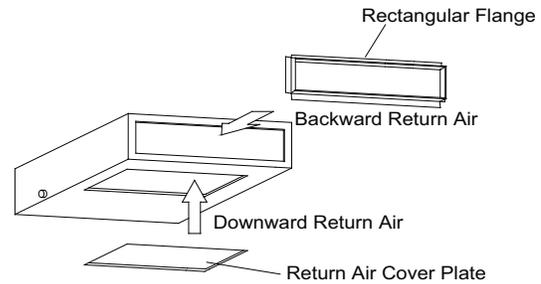

Fig. 54 – Return Air Duct
- 1 The default installation location of the rectangular flange is in the back and the return air cover plate is in the bottom (see Fig. 54).